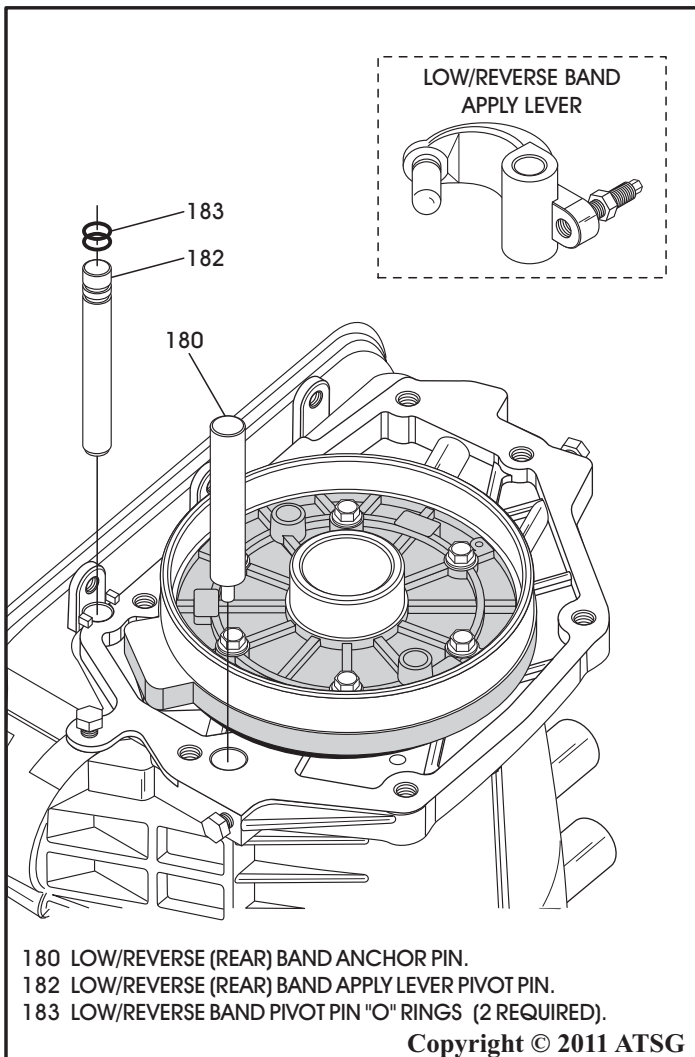

Figure 96
23. Install low/reverse band anchor pin into the case, as shown in Figure 96, using Trans-Jel® as lube to retain it in place.
24. Install two new "O" ring seals on low/reverse band lever pivot pin, as shown in Figure 96, and lube "O" rings with Trans-Jel®.
25. While holding low/reverse band lever in position inside the case, install reverse band lever pivot pin thru the case bore & low/reverse apply lever, as shown in Figure 96.